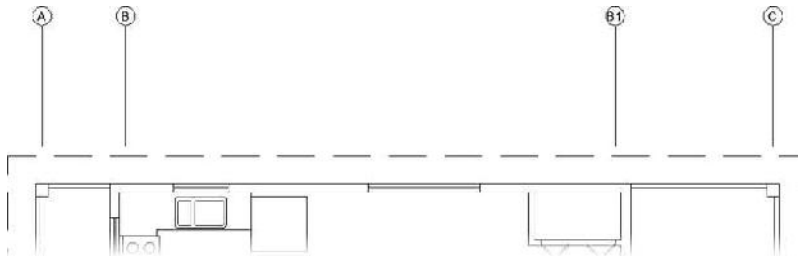

FIGURE 9.13: The grid symbols after being updated
6. In the Enhanced Attribute Editor dialog box, repeat step 3 to change D to C. The attributes are updated (see Figure 9.13).